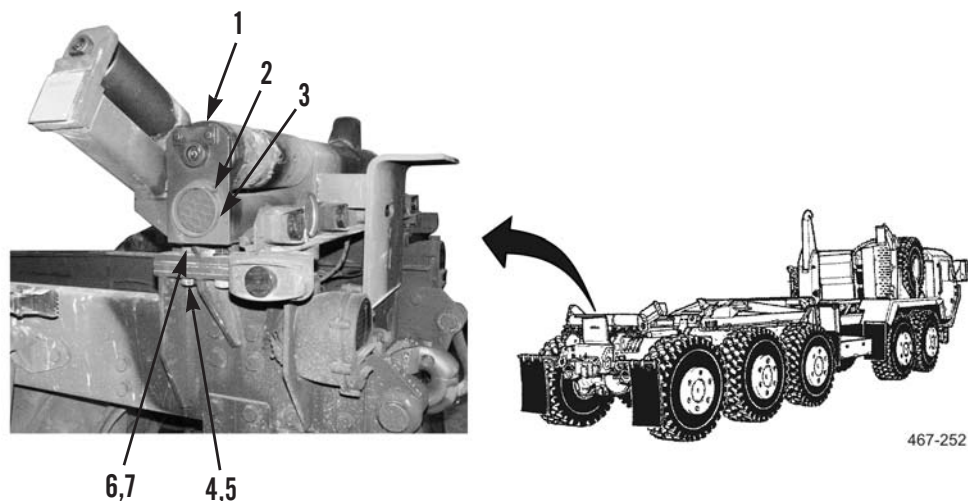

Figure 16. Roller Assembly Removal.
1. Attach sling and lifting device to rear roller assembly (Figure 16, Item 1).
3. Remove two bolts (Figure 16, Item 2) and reflector (Figure 16, Item 3) from roller assembly (Figure 16, Item 1).
4. Remove six nuts (Figure 16, Item 7), washers (Figure 16, Item 6), bolts (Figure 16, Item 4), and washers (Figure 16, Item 5) from roller assembly (Figure 16, Item 1).
5. Use lifting device to remove roller assembly (Figure 16, Item 1) from vehicle.